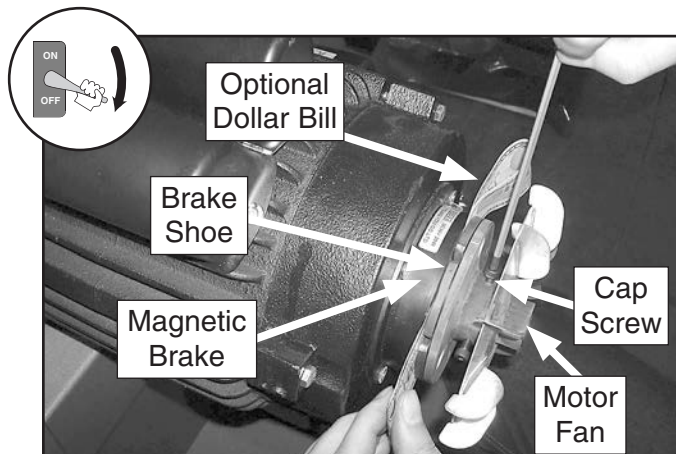

Figure 106. Adjusting distance between magnetic brake and brake shoe.
- Remove the motor fan cover, then loosen the cap screws securing the motor fan and brake shoe (see **Figure 106**).